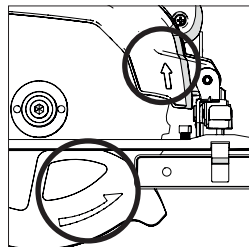

Fig. 6
- Ensure that the direction of rotation arrows printed on the blade, match the direction of rotation arrows found on the machines upper and lower blade guards. (Fig. 6)